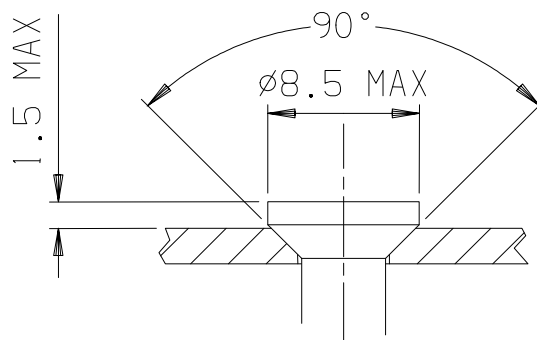

Fig. 3
3.1.16 Countersunk head screws. See Fig. 3.